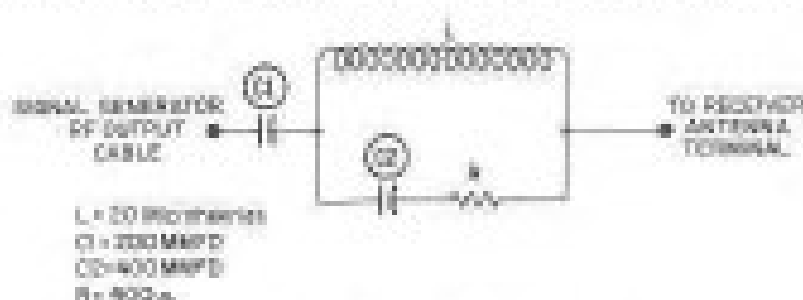

FIGURE 22
3. RF section — The PACO G-30 RF cable must now be connected to the antenna post, and the ground lead attached to the receiver ground terminal or chassis. (See - 2. Oscillator section - for receivers using a loop antenna). In general practice it is good to connect an all-wave dummy antenna between the generator and the receiver. See Figure 22.